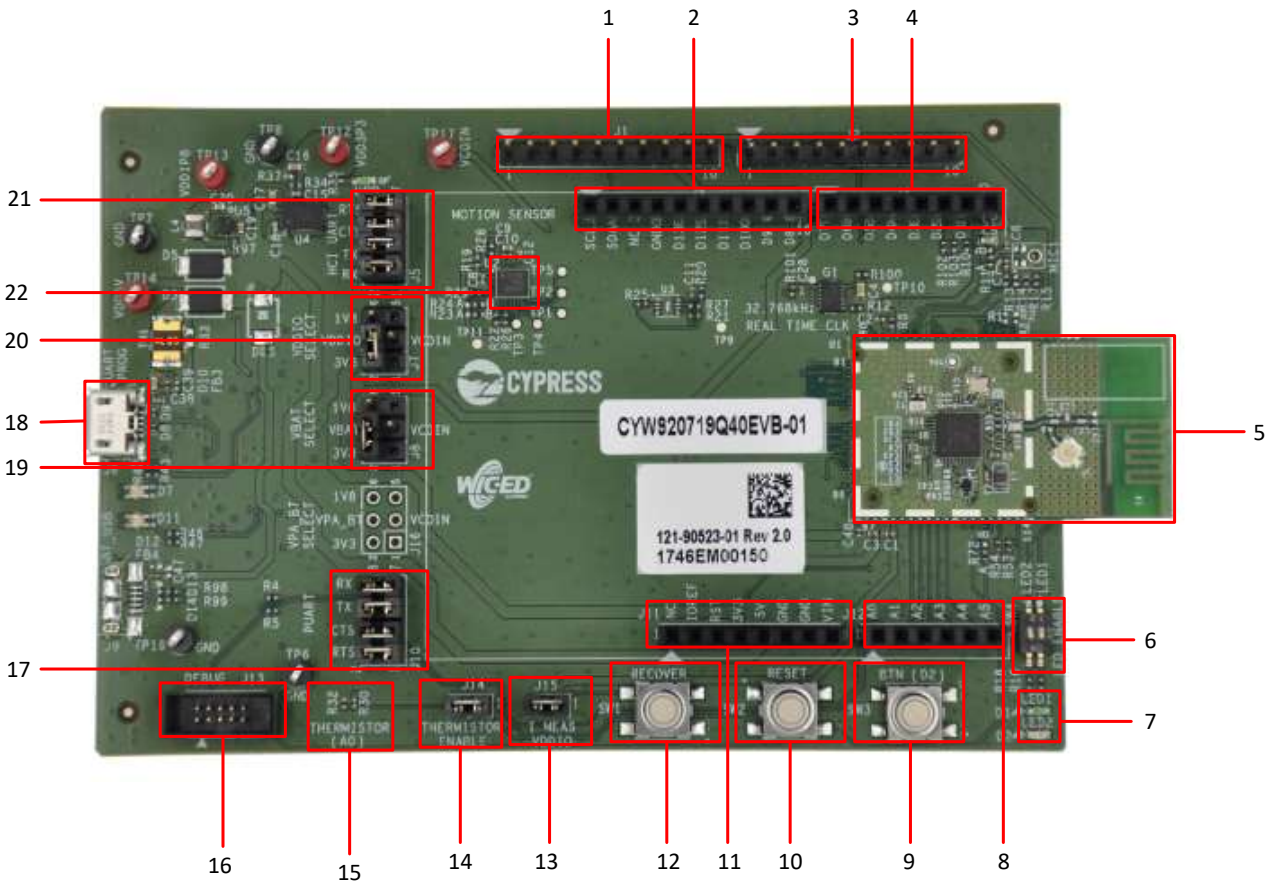

Figure 3-3. CYW920719Q40EVB-01 Evaluation Board
- Automatically, by pressing button **SW 3** (see Figure 3-3) on the WICED evaluation board (**Allow Notifications** must be selected from the **Value** drop-down list to allow automatic notifications).
- The Hello Configuration read-write characteristic is used to configure the number of times an LED on the evaluation board blinks (see Figure 3-3) when the value is changed and whenever button **SW 3** is pressed.
2. Press button **SW 3** on the WICED board (see Figure 3-3). The Hello X message is displayed in the **Value** field. Each time the button is pressed, the message number increments.
2. Press button **SW 3** on the WICED board (see Figure 3-3). The LED on the board again blinks five times.
Figure 3-3 and Figure 3-4 show the markup of the CYW920719Q40EVB-01 board. See the list below for a description of the numbered items.